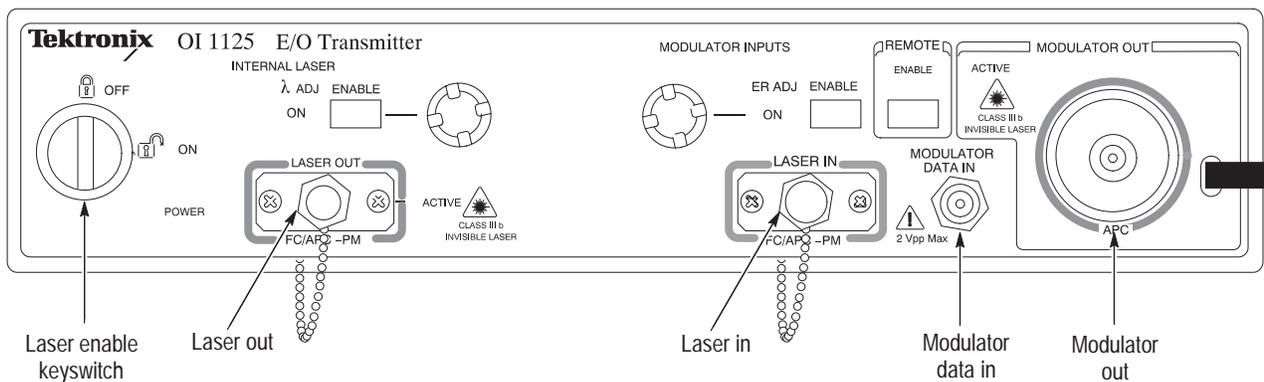

Figure 1: OI1125 E/O Transmitter
The OI1125 (Figure 1) is an electrical-to-optical transmitter that accepts serial electrical data from a BERT (Bit Error Rate Tester) at rates up to 12.5 Gb/s and outputs an equivalent high-speed serial optical signal.
6. If you are using the internal laser as the optical source for the transmitter, connect the optical cable with FC/APC-PM connectors on both ends (standard accessory, Tektronix part number 174-4664-00), between the internal laser output and the modulator optical input. See Figure 1 on page 1.